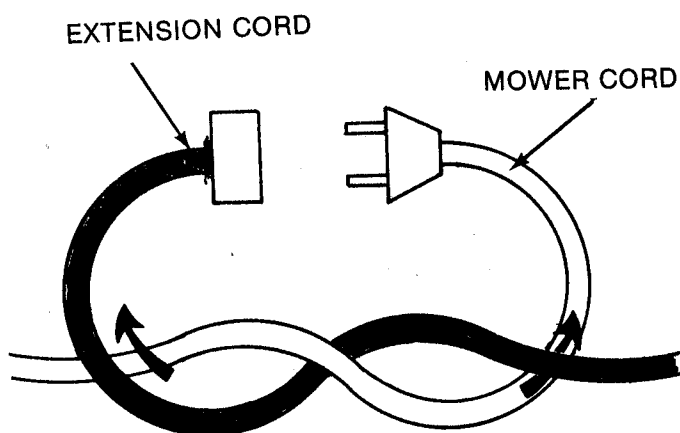

FIG 1 - TIE CORD AS INDICATED
9. **WARNING:** To prevent electric shock, use only with an extension cord suitable for outdoor use. To prevent disconnection of cord during operation, tie cord as shown in figures 1 and 2 on page 3 of this manual.